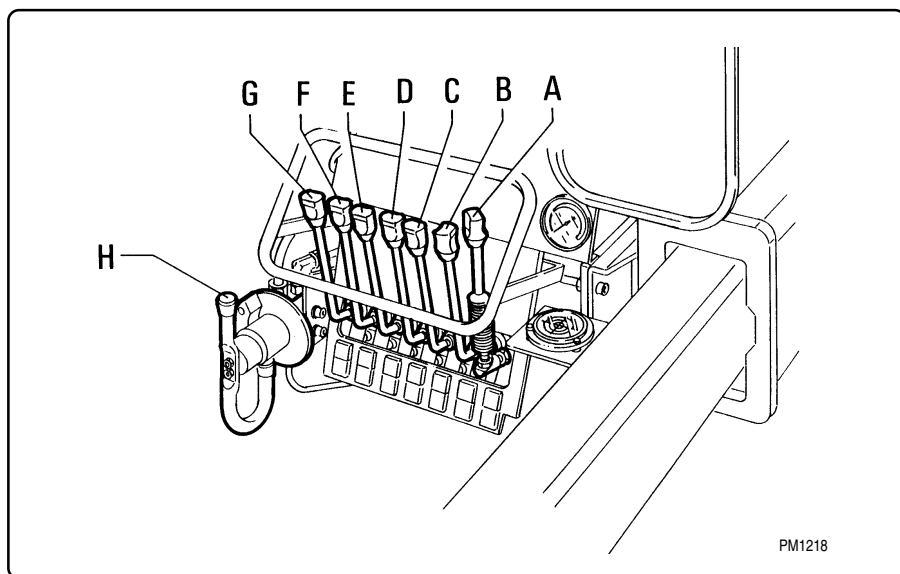

fig. 5.2.1
5.2 - Comandi distributore fig. 5.2.1
5.2 - Control valve block fig. 5.2.1